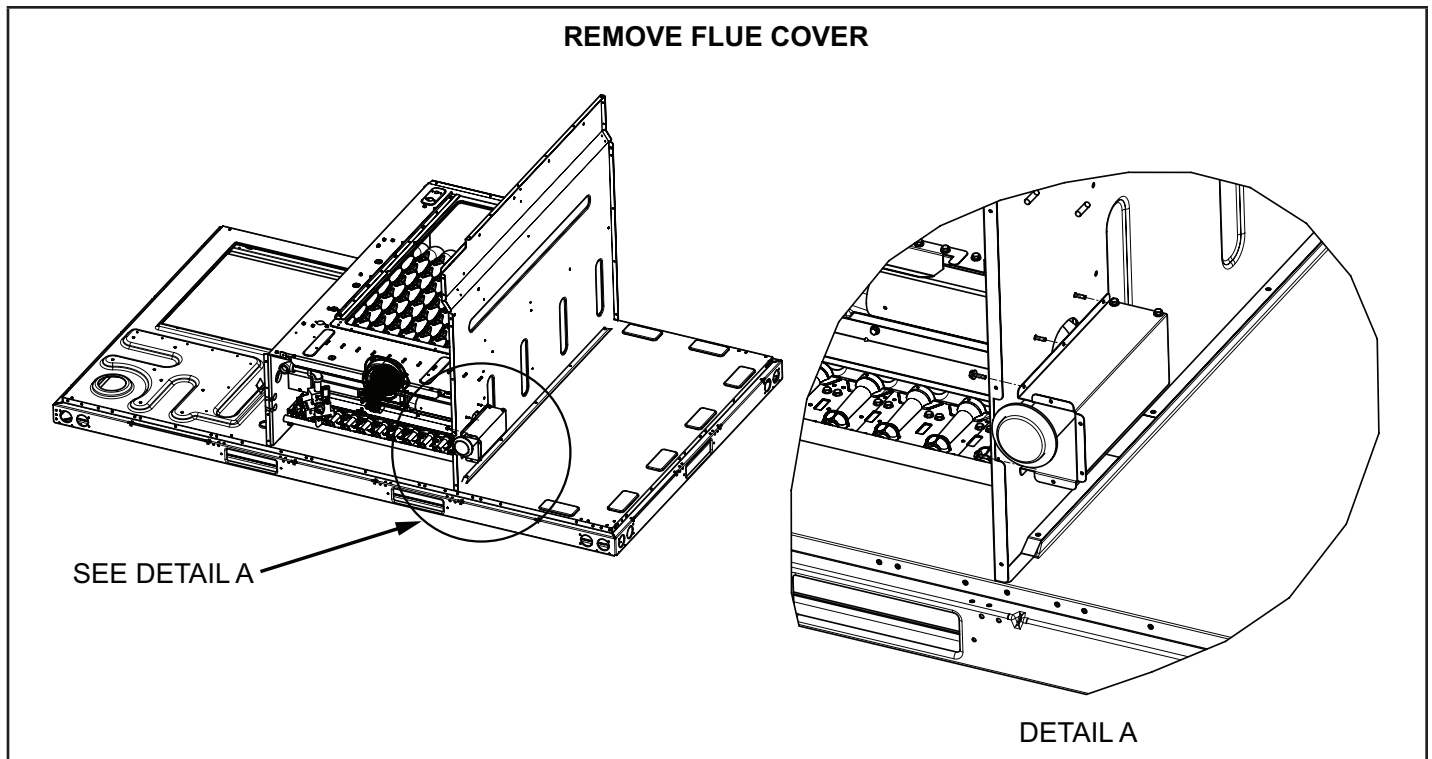

FIGURE 2
- 3 - Remove flue cover from divider wall by removing (6) screws. Discard flue cover after removal. See FIGURE 2.
- 1 - Secure flue cover to divider wall using (6) provided screws. Cover should sit flush against divider wall with no gaps after installation. Screws should be driven left to right from the gas heat compartment through the divider wall and into engaging holes on flue cover. See FIGURE 2 - DETAIL A..
- 2 - Reinstall mullion, blower access door, and heat access door. Use (4) provided screws to secure flue cover to mullion after mullion installation. Cover should sit flush against mullion with no gaps after installation.